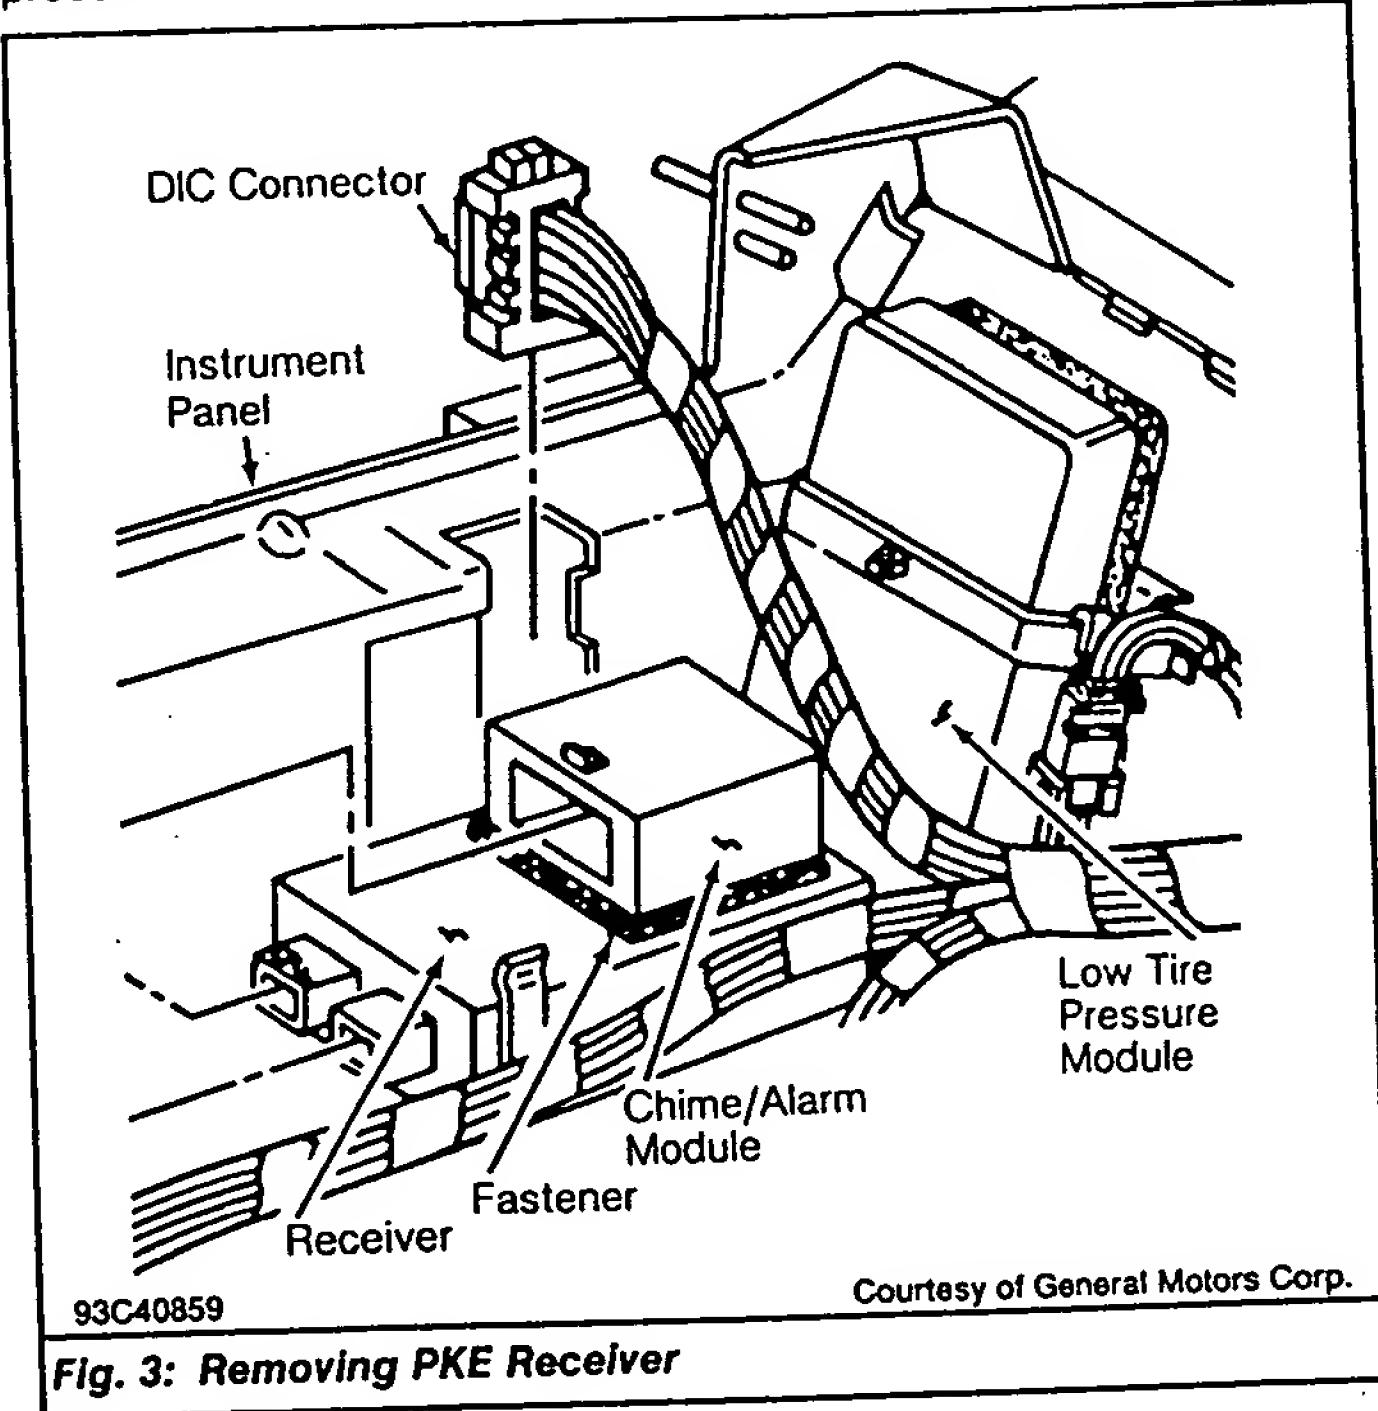

Fig. 3: Removing PKE Receiver
**Removal & Installation** – Remove instrument panel upper trim pad. Remove chime module from receiver by pulling firmly on module to separate hook and loop fastener. Remove receiver from retainer. See Fig. 3. Disconnect electrical connector. To install, reverse removal procedure.